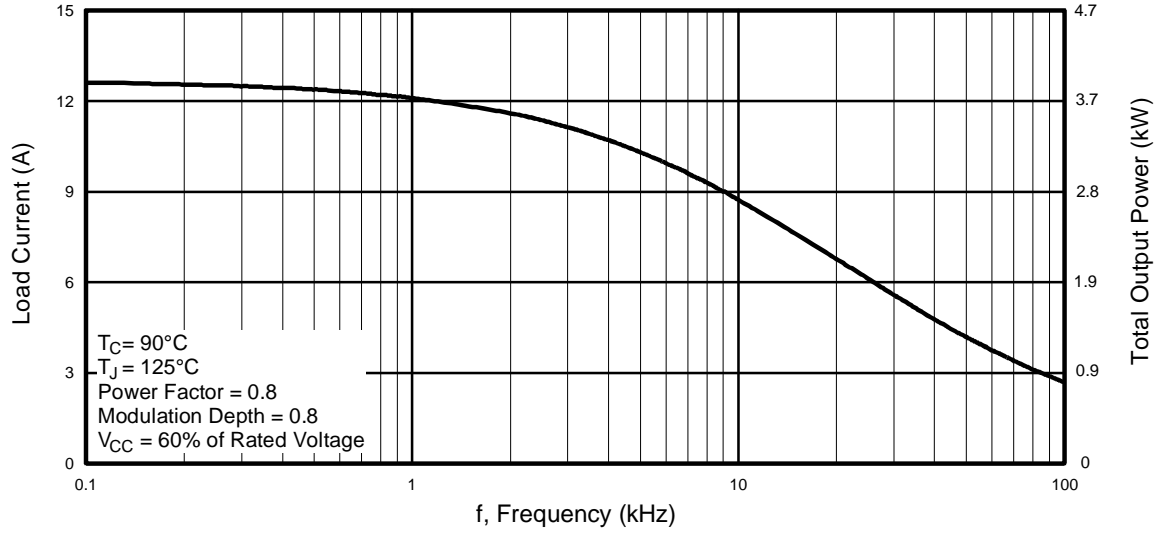

Fig. 1 - RMS Current and Output Power, Synthesized Sine Wave
- See Fig. 1 for Current vs. Frequency curve
8.8 A_{RMS} per phase (2.7 kW total) with T_C = 90°C, T_J = 125°C, Supply Voltage 360Vdc, Power Factor 0.8, Modulation Depth 80% (See Figure 1)